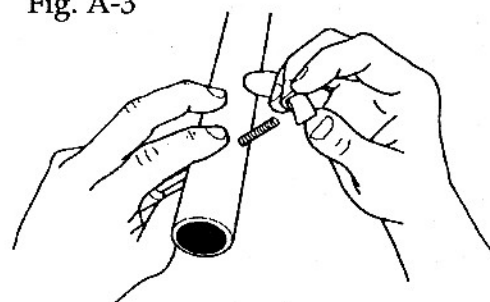

Fig. A-4
7. Hold the screw in place with a medium Phillips screwdriver, and place a spacer (393) on the screw, as demonstrated in Fig. A-4.